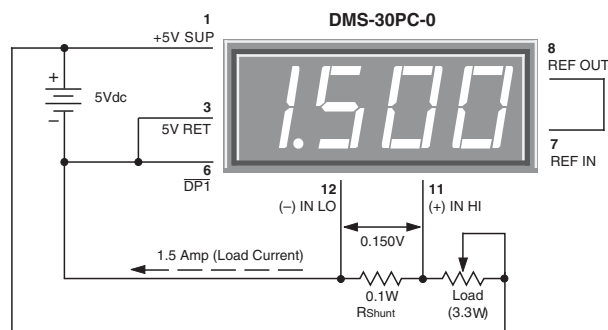

Figure 9. Basic DC Ammeter Circuit
- 7. Digital Ammeter:** Digital ammeters are finding ever-increasing usage because analog-style ammeters (moving-vane types) now cost roughly the same as their digital counterparts. Additionally, analog ammeters are not nearly as rugged as modern digital panel voltmeters. Figure 9 illustrates a typical ammeter application. The circuit uses a $\pm 200\text{mV}$ input meter